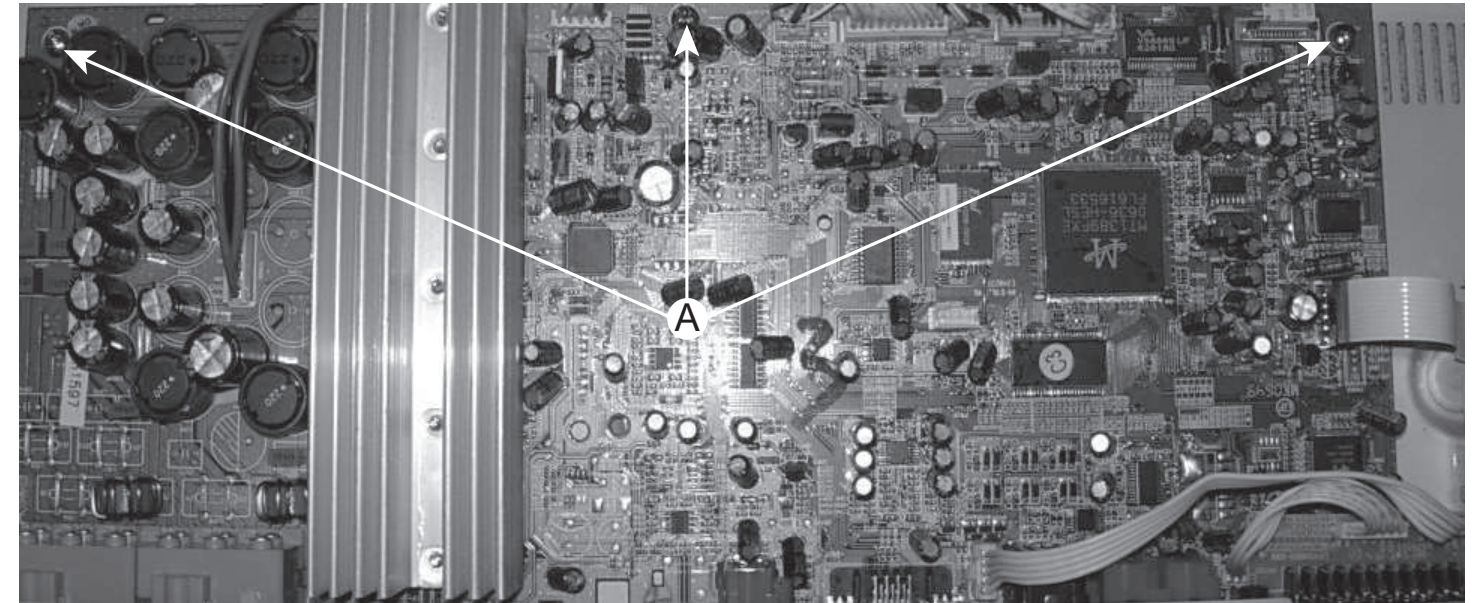

Figure 4
- 2) Loosen 3 screw " A " on the top of main board as shown in figure 4.